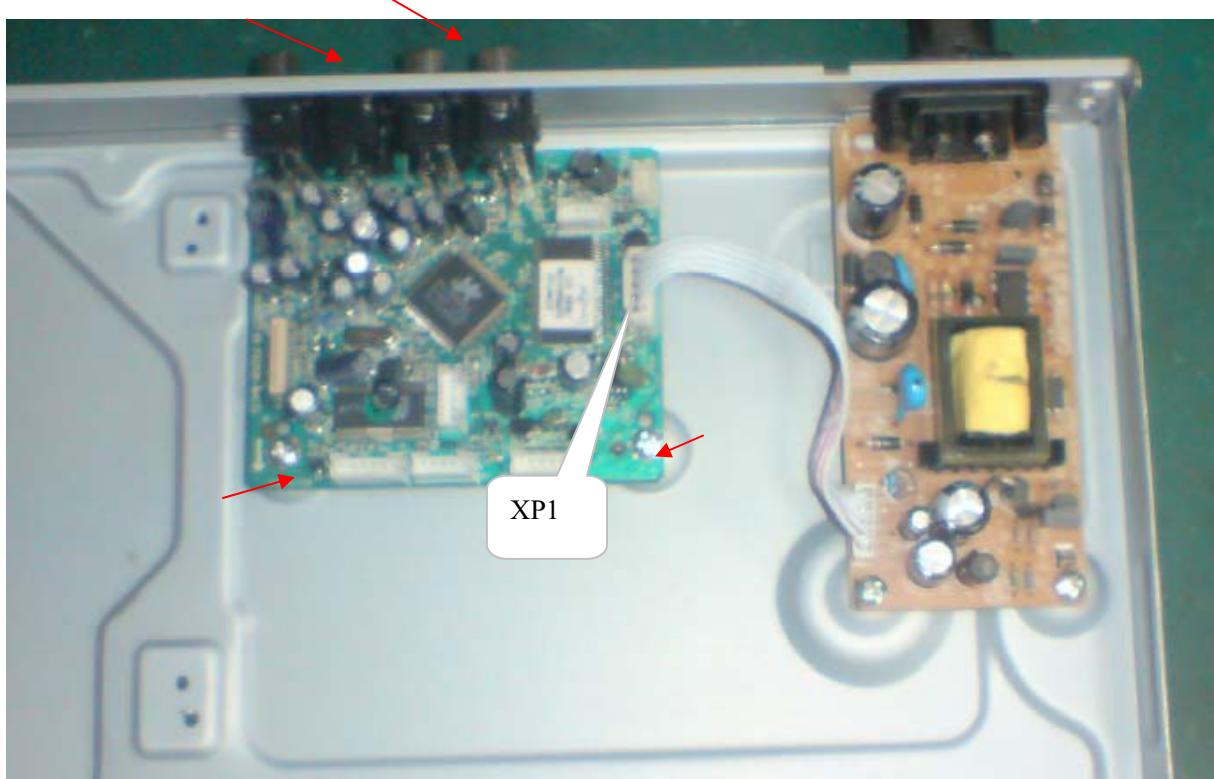

Figure 8
Step6: Dismantling Main Board, first disconnect the connector (XP1), and then remove 4 screws. (Figure 8)